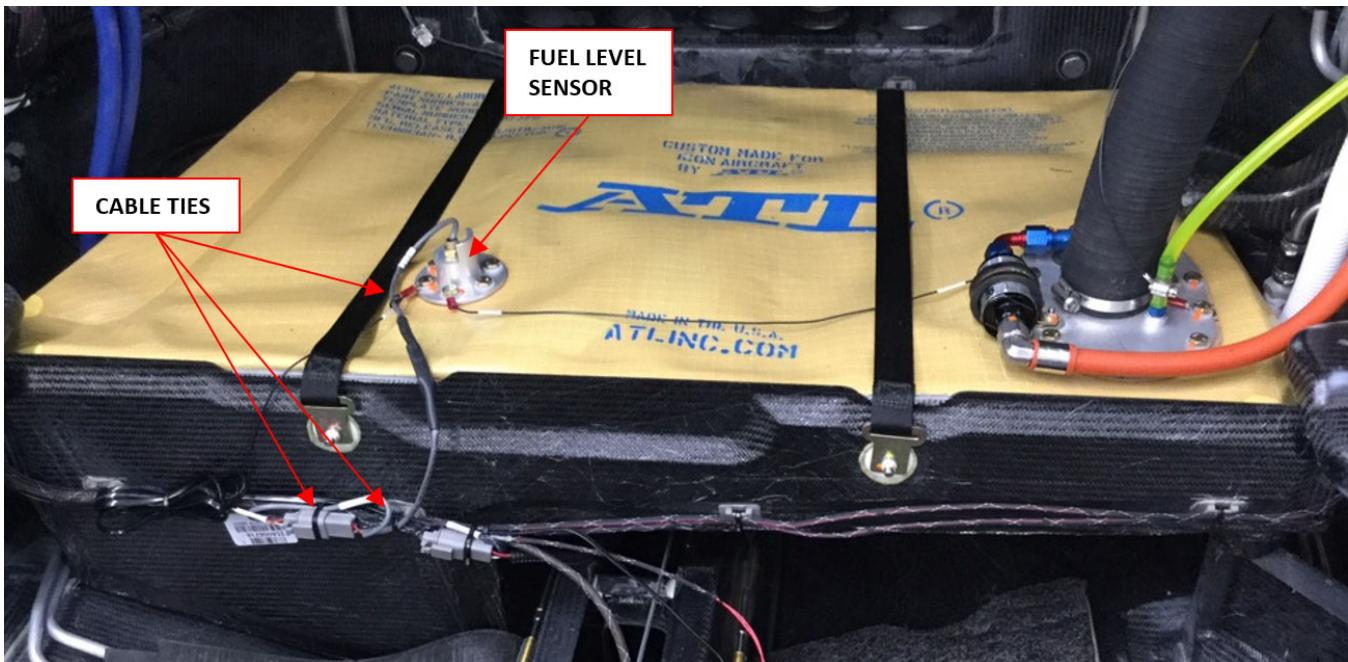

Figure 3 – Bladder fuel tank.
2. Disconnect electrical connections from fuel level sensor, Figure 3:
2. Secure the electrical connections to the fuel level sensor, Figure 3, 7 & 10:
- e. Secure the fuel level sensor harness and the T9028 ground wire using three CABLE-TIE, NYLON 6-6, 30LB as shown in Figure 3.